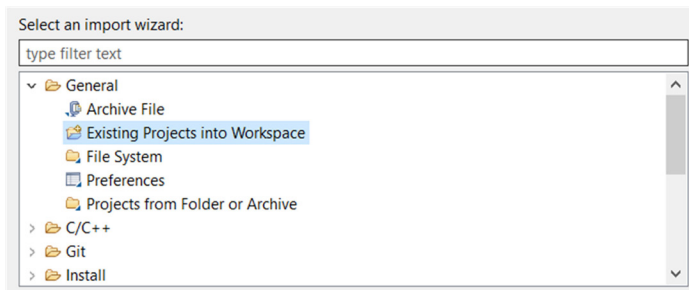

Figure 17.12 Select Existing Projects into Workspace
- Click **File -> Import** and then, when prompted select **General -> Existing Projects** into Workspace (Figure 17.12) and click **Next**